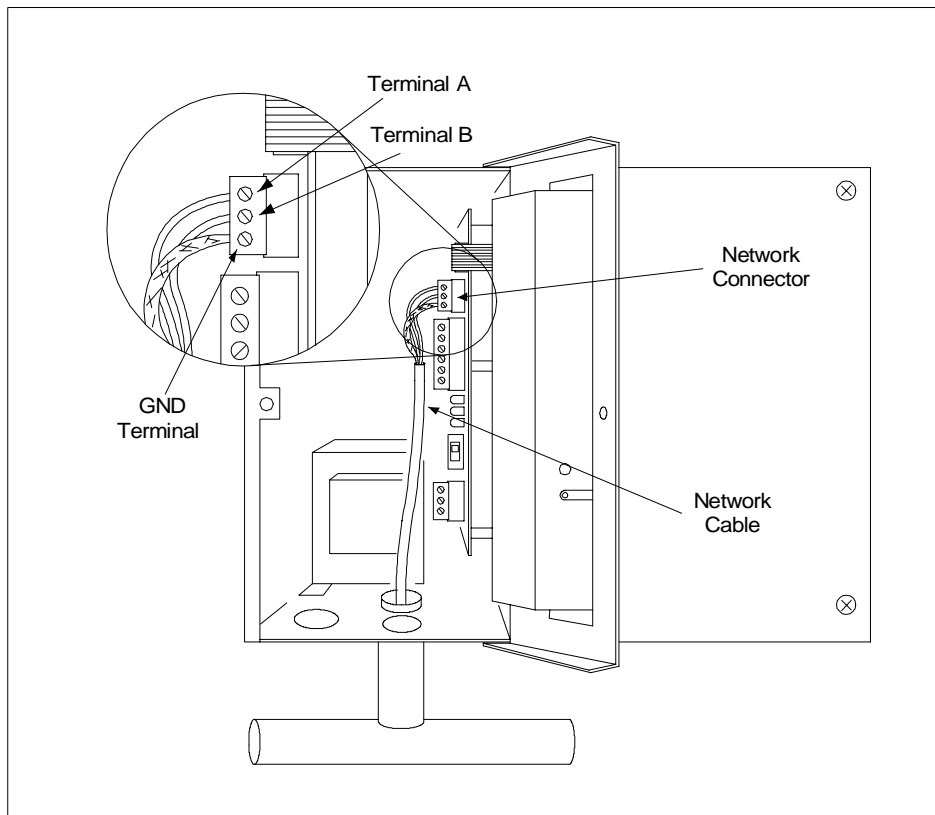

Figure 6 Cutaway of the Prolink main data chassis and network connections
Step 2: Connect the network cable conductors to terminals **A** and **B** on the network connector. This connection is not polarized. See *figure 6*.